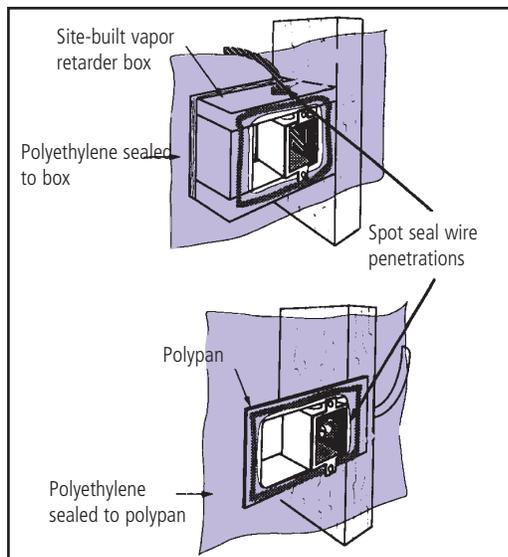

Fig. E-40: Examples of sealed outlet boxes
- Electric outlet and switch boxes: Specify sealed outlet/switch boxes or use polypan and require insulation contractor to foam-in boxes, seal wire penetrations, and seal vapor retarder to boxes (see Figure E-40).